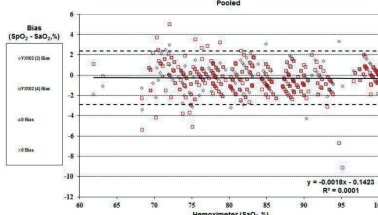

Figure 3 YX102
- The technology used in Finger Pulse Oximeter has been verified with accuracy when there is no motion via human blood studies on healthy adult volunteers, of both male and female with light to dark pigmented skin in induced hypoxia studies in the range of 70%~100% SpO₂ against a laboratory co-oximeter. Graphical Plot of SaO₂ versus error (SpO₂ - SaO₂) (See Figure 3、4)